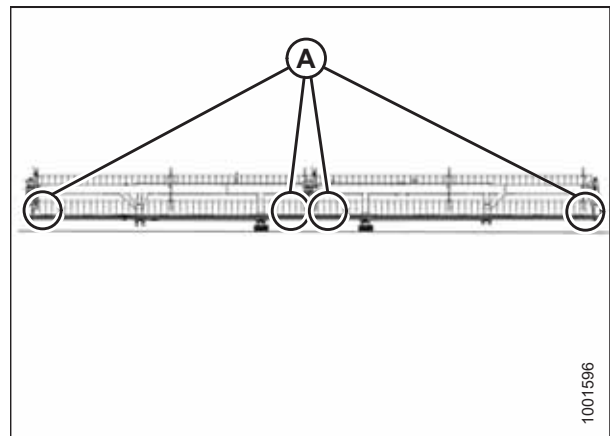

Figure 5.38: Double-Reel Measurement Locations
- Figure 5.38, page 142 – double reel